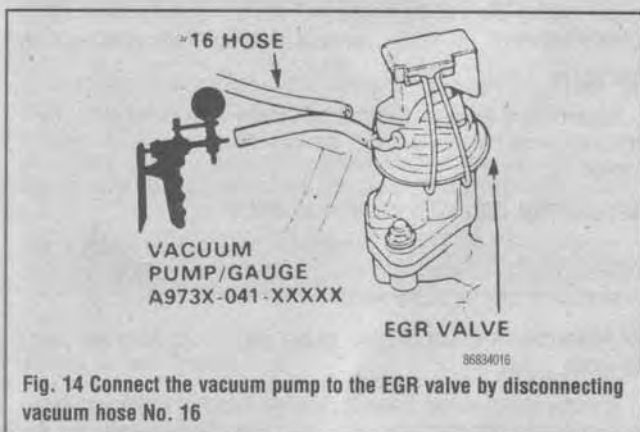

Fig. 14 Connect the vacuum pump to the EGR valve by disconnecting vacuum hose No. 16
▶ See Figures 14, 15, 16 and 17